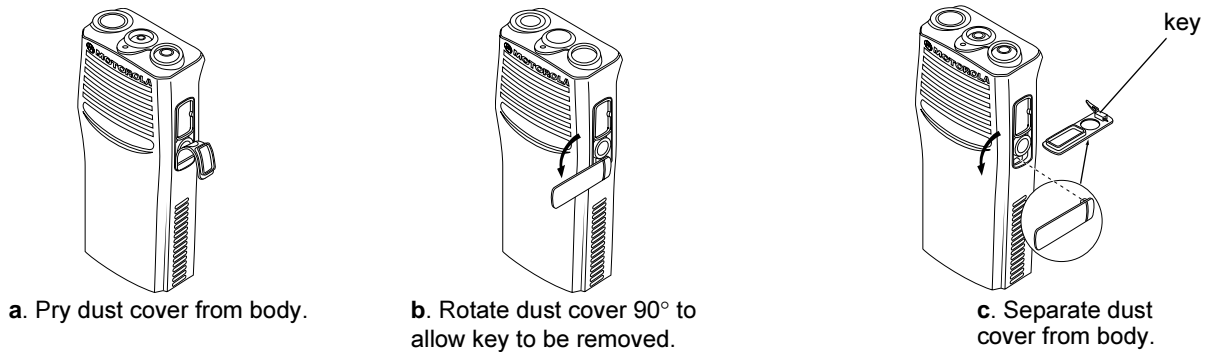

Figure 2-4 Dust Cover Removal
- Gently pry the top of the dust cover away from the body of the radio (Figure 2.4).